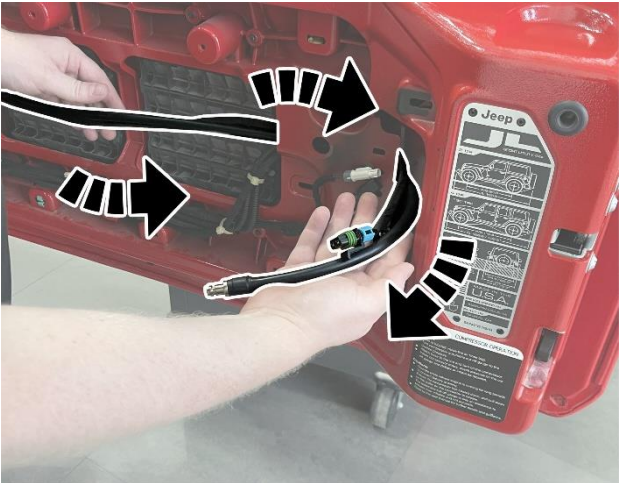
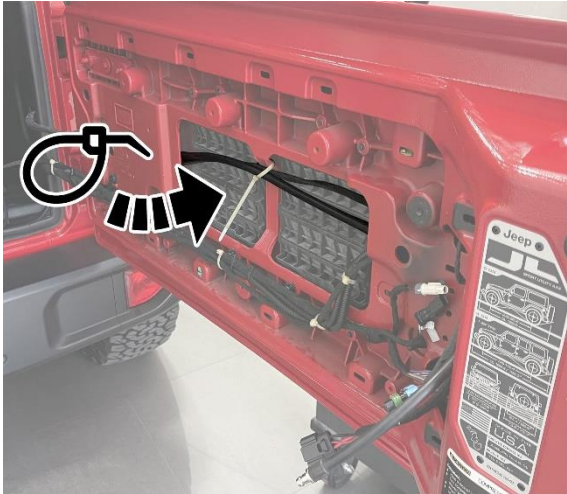

Figure 19 – Wire and Hose Routing
Figure 20 – Ty-Strap Installed
38. Route the wire and hose as illustrated (Figure 19) and install and secure with a Ty-Strap (Figure 20).